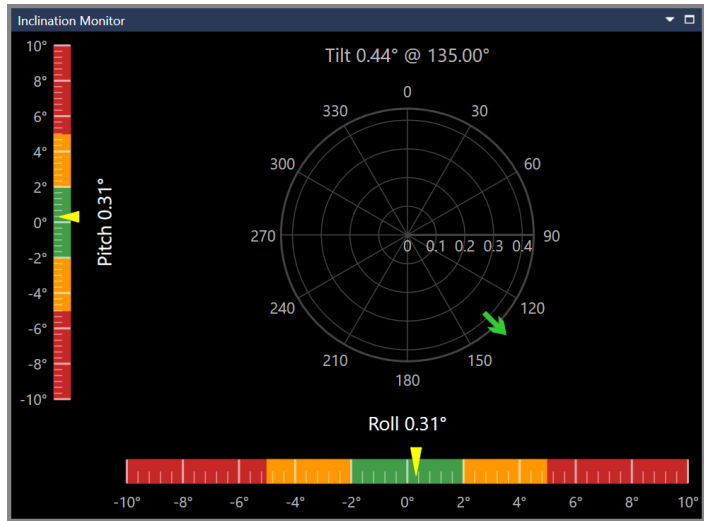
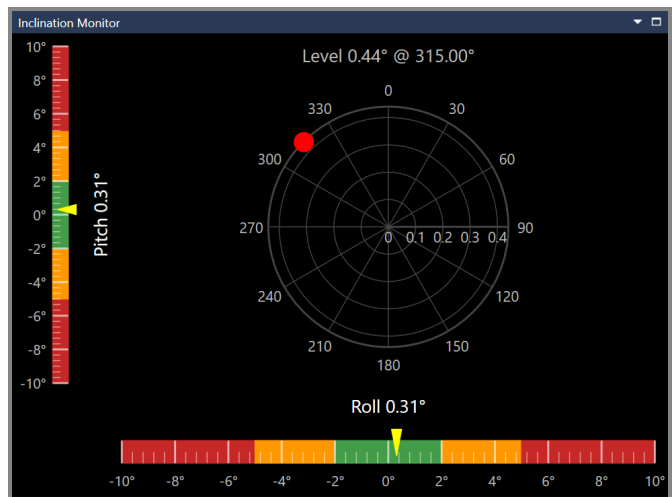

FIGURE 8-103 WINDOWS - INCLINATION MONITOR – DISPLAY TYPE – TILT
FIGURE 8-104 WINDOWS - INCLINATION MONITOR – DISPLAY TYPE – LEVEL (BUBBLE)
- c. **Display type:** How the inclination is graphically displayed on the polar plot. The two options are Tilt, see Figure 8-103, or Level (Bubble) see Figure 8-104